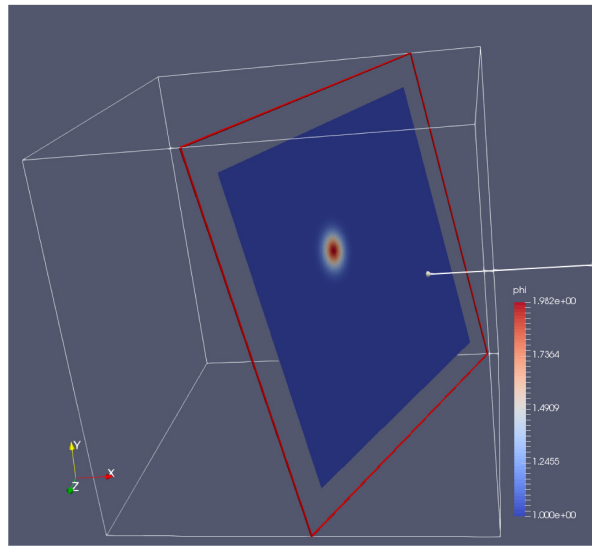

Fig. 18.1: : Plotfile image generated with ParaView
7. You can play with the Plane Parameters to define a plane of data to view, as shown in Fig. 18.1.